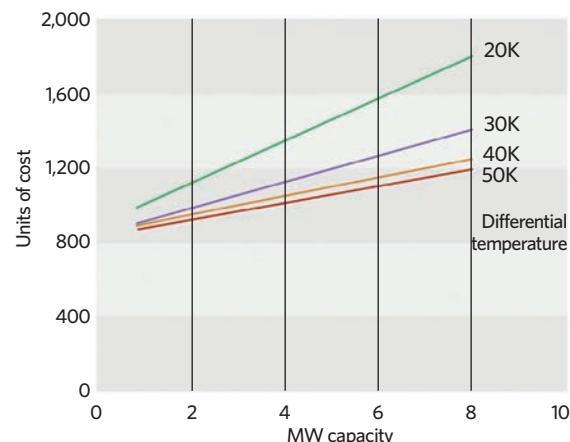

Figure 1: Indicative relationship between cost of pipework infrastructure and differential temperature on a system¹
The amount of heat extracted from water distributed around heat networks will impact on pumping power and heat-generation performance. This will affect both the capital and operating costs. For example, Figure 1 (taken from the *London Heat Network Manual*) indicates the impact of network temperature differential on the cost of associated pipework systems. The temperatures selected are also likely to affect the efficiency of the heat source – particularly for heat pumps and steam-turbine extraction – and the volume of any thermal stores. Even if the heat supplied to the heat network is produced from fuels that are carbon dioxide (CO₂) neutral, the power used for pumps and fans, and its production, contributes to CO₂ emissions. Reduced costs are in the best interest of both the supplier and the consumer, so it is important that the district heating distribution network is holistically designed, operated and maintained for economic and environmental reasons.
- » 1. For a 4MW heat network, what is the infrastructure cost suggested in Figure 1 of using a 50K temperature differential compared with using 20K?